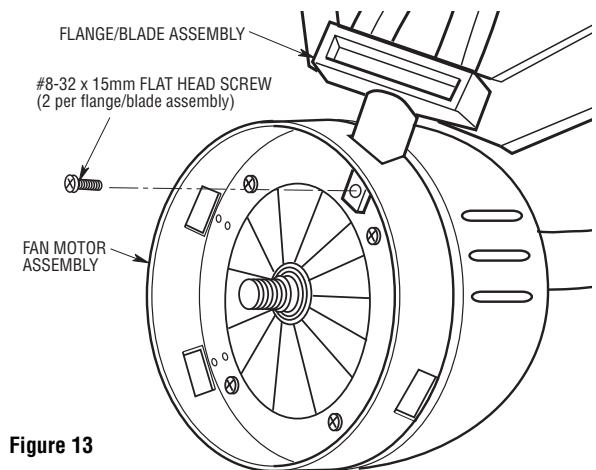

Figure 13
- 3. With the fan suspended on the ceiling, install each blade assembly onto the color coded motor hub by sliding the tip of each blade flange into one of the four large mounting holes on the exterior of each motor hub. The flange tip and mounting hole are keyed to ensure correct installation, do not force the parts together. Secure the blade assembly to the motor hub using two #8-32 x 15mm flat head screws provided (Figure 13).